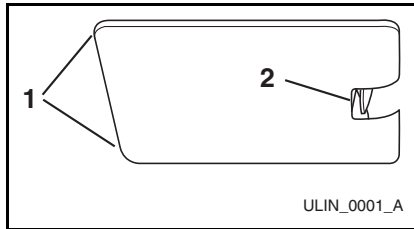

Figure 14
1. Grasp the edges of the light housing lens (**Figure 14, 1**) opposite the exposed tab and gently push the lens toward the tab (**Figure 14, 2**).
2. Pull the edge of the lens down (**Figure 14, 1**) and swing it out of the light housing.